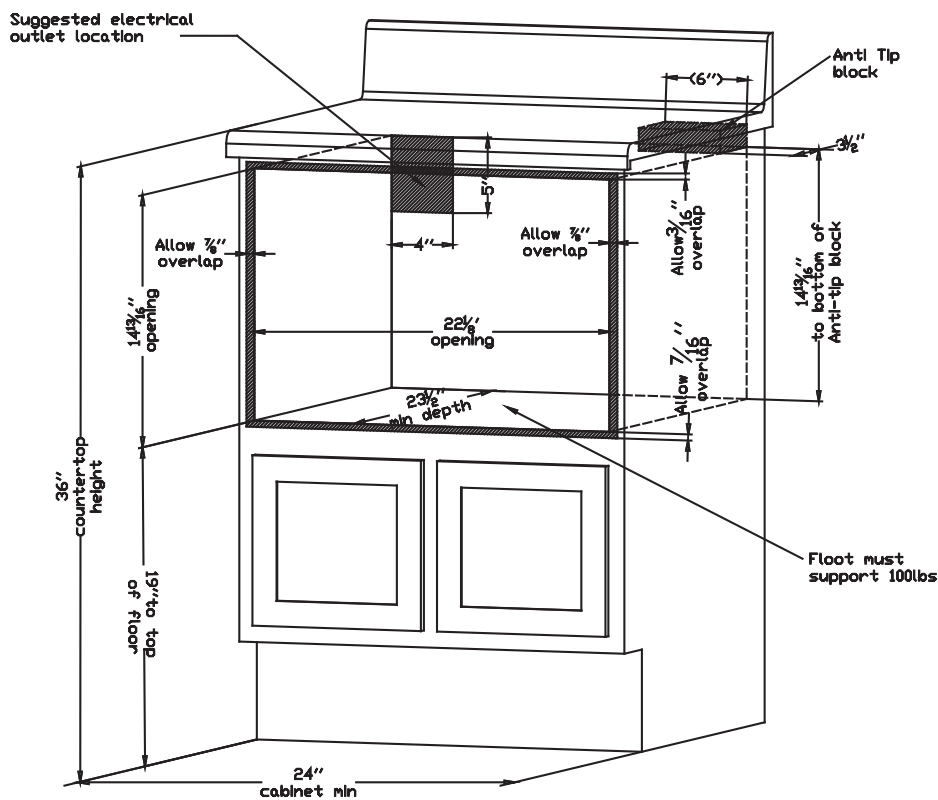
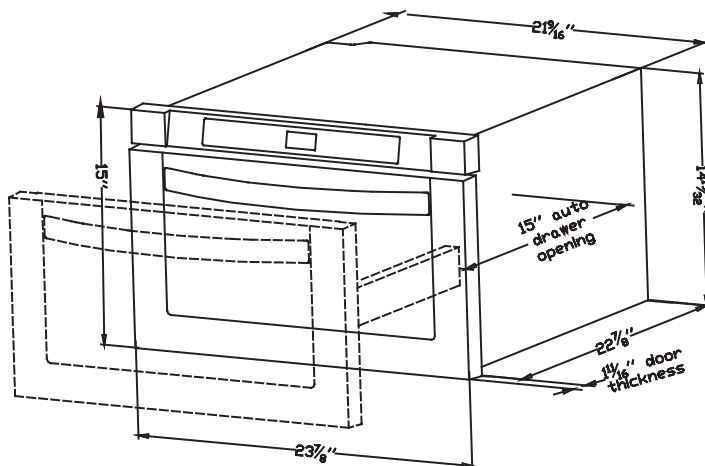

Figure 1
Figure 2
- Dimensions that are shown in **Figure 1** must be used. Given dimensions provide minimum clearance. Locate electrical outlet in the shaded area in the upper left-hand corner of the cutout. See **Figure 3**.
Figures 1 and Figure 2 contain many Microwave Drawer measurements for reference when planning the drawer's location. This Microwave Drawer can be installed below any electric or gas wall oven.